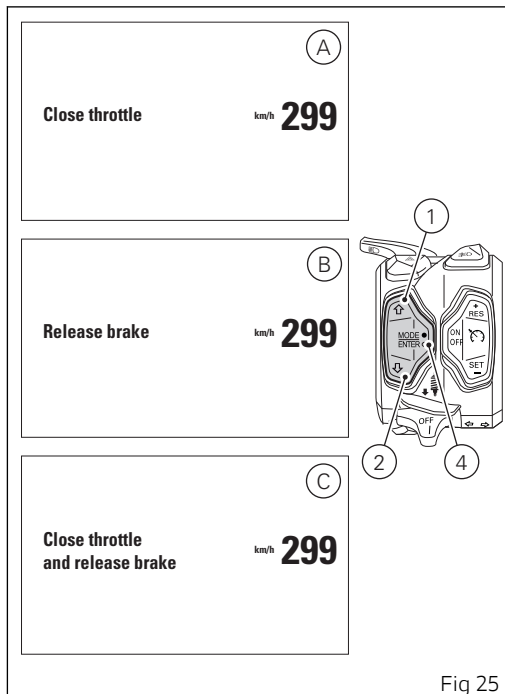

Fig 25
- if throttle is "open" the instrument panel activates the "CLOSE THROTTLE" (A, Fig 25) indication; only when throttle is "closed" the new selected riding mode is confirmed and memorised, and the instrument panel goes back to "standard page" displaying;
- if throttle is "closed" but brakes are operated, the instrument panel activates the "RELEASE BRAKES" (B, Fig 25) indication and only when brakes are released the new selected riding mode is confirmed and memorised, and the instrument panel goes back to standard page displaying;
- if throttle is "open" or if brakes are operated and vehicle is moving, the instrument panel shows "CLOSE THROTTLE AND RELEASE BRAKES" (C, Fig 25) and, only after all conditions are met (closed throttle and brakes released or vehicle stopped) the instrument panel confirms and memorises the new selected riding mode and goes back to "standard page" displaying.